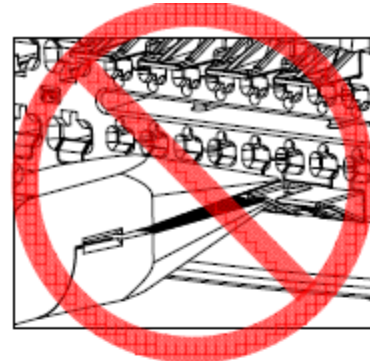

Figure 4.1b
- **WARNING:** Do not grab or grip the Shorting Bar tabs if so equipped (see Figure 4.1b). Tabs may be damaged leading to a failure of the shorting bar function.